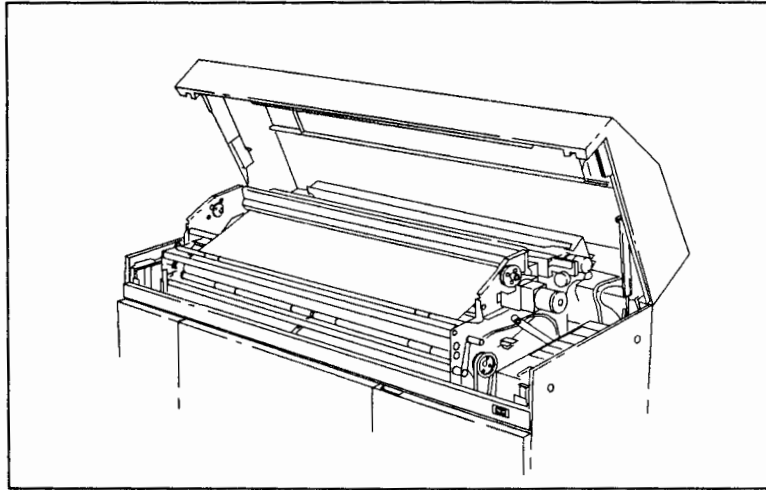
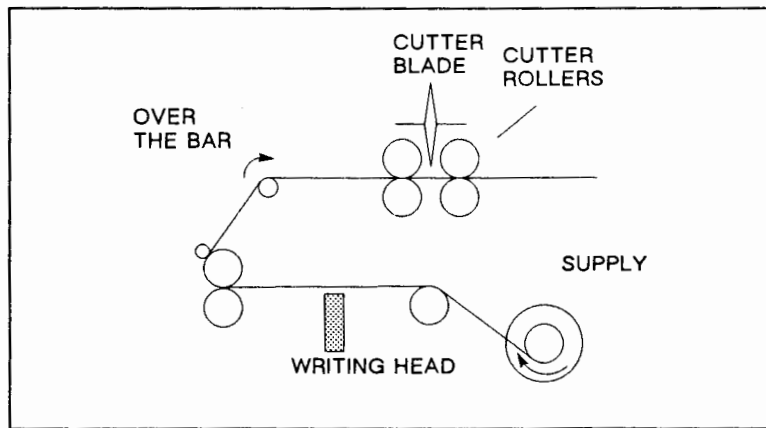

Figure 2-28. Cutter Operation
Figure 2-29. Cutter Loading
- j. Route the media over the bar and into the slot at the front of the cutter mechanism. See Figure 2-28 and Figure 2-29.